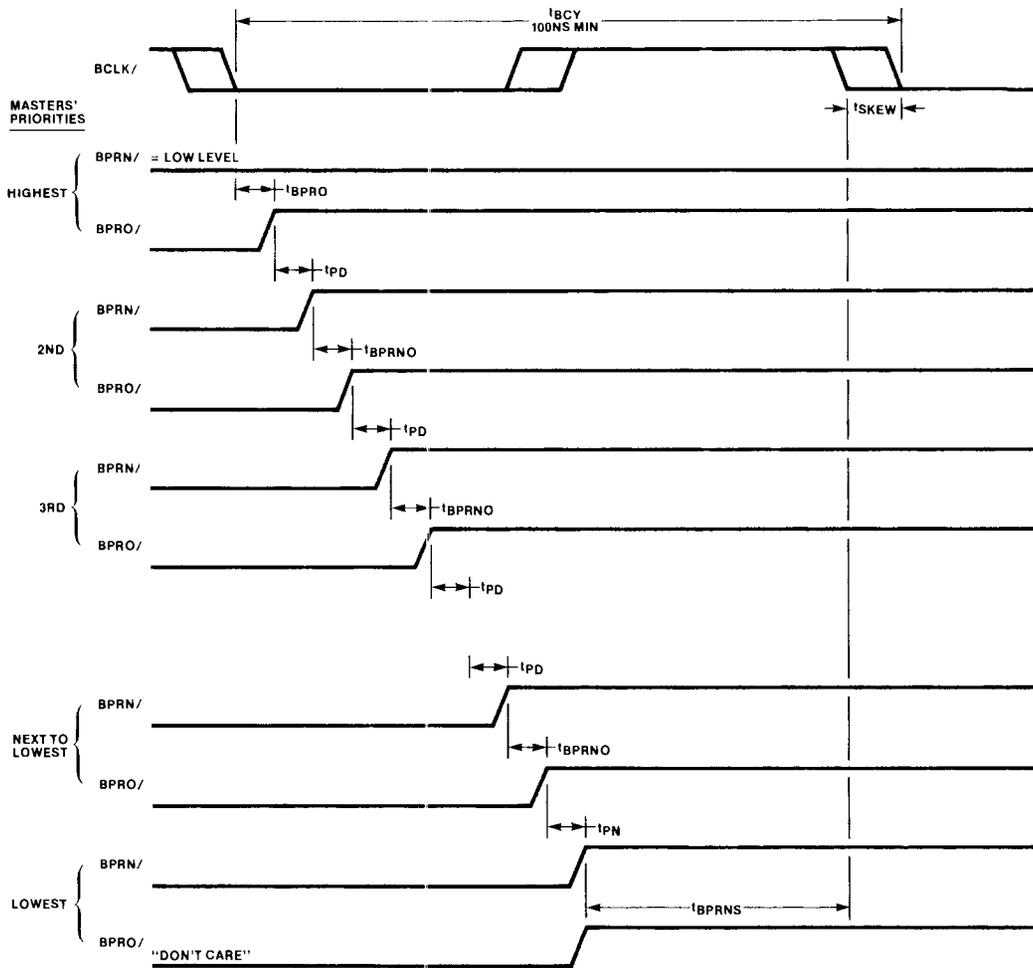

Figure 3-9. Serial Priority AC Timing
**3.2.5.1 SERIAL PRIORITY.** For a system that uses a serial priority scheme (i.e., daisy chain BPRO/'s to BPRN/'s, see Section 2.4) the timing specifications shown in figure 3-9 apply.